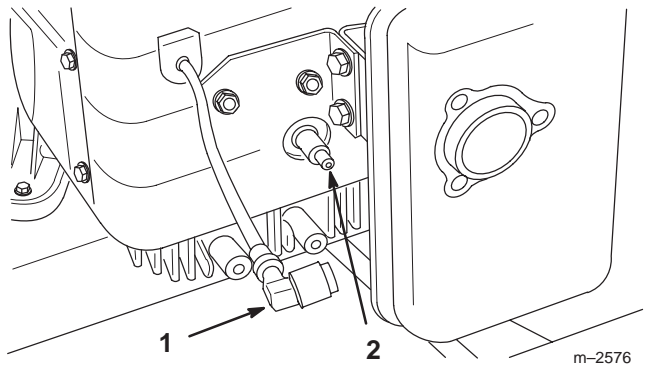

Figure 28
- Pull the wire(s) off the spark plug(s) (Fig. 28). Now clean around the spark plug(s) to prevent dirt from falling into the engine and potentially causing damage.